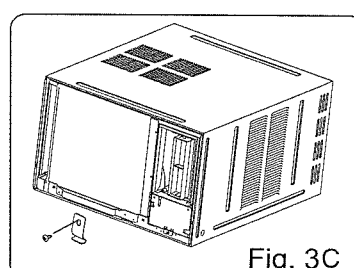

Fig. 3C
- Remove one screw on the chassis fixing bracket, then remove the chassis fixing bracket as shown in Fig.3C.